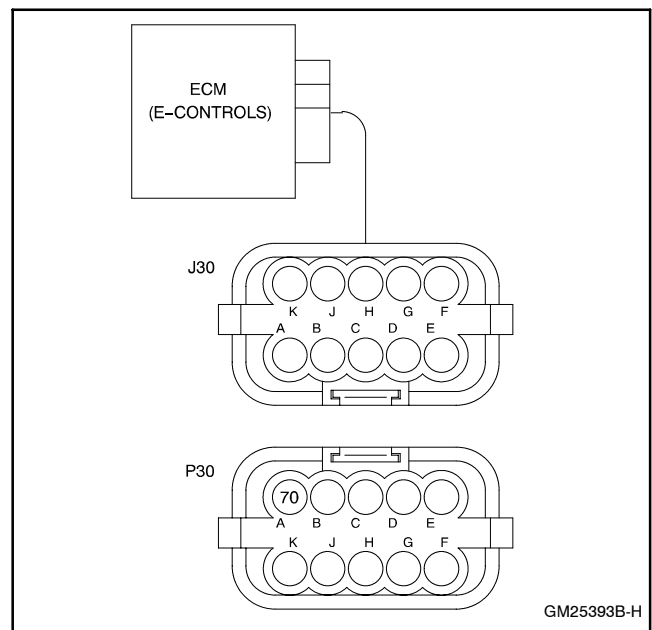
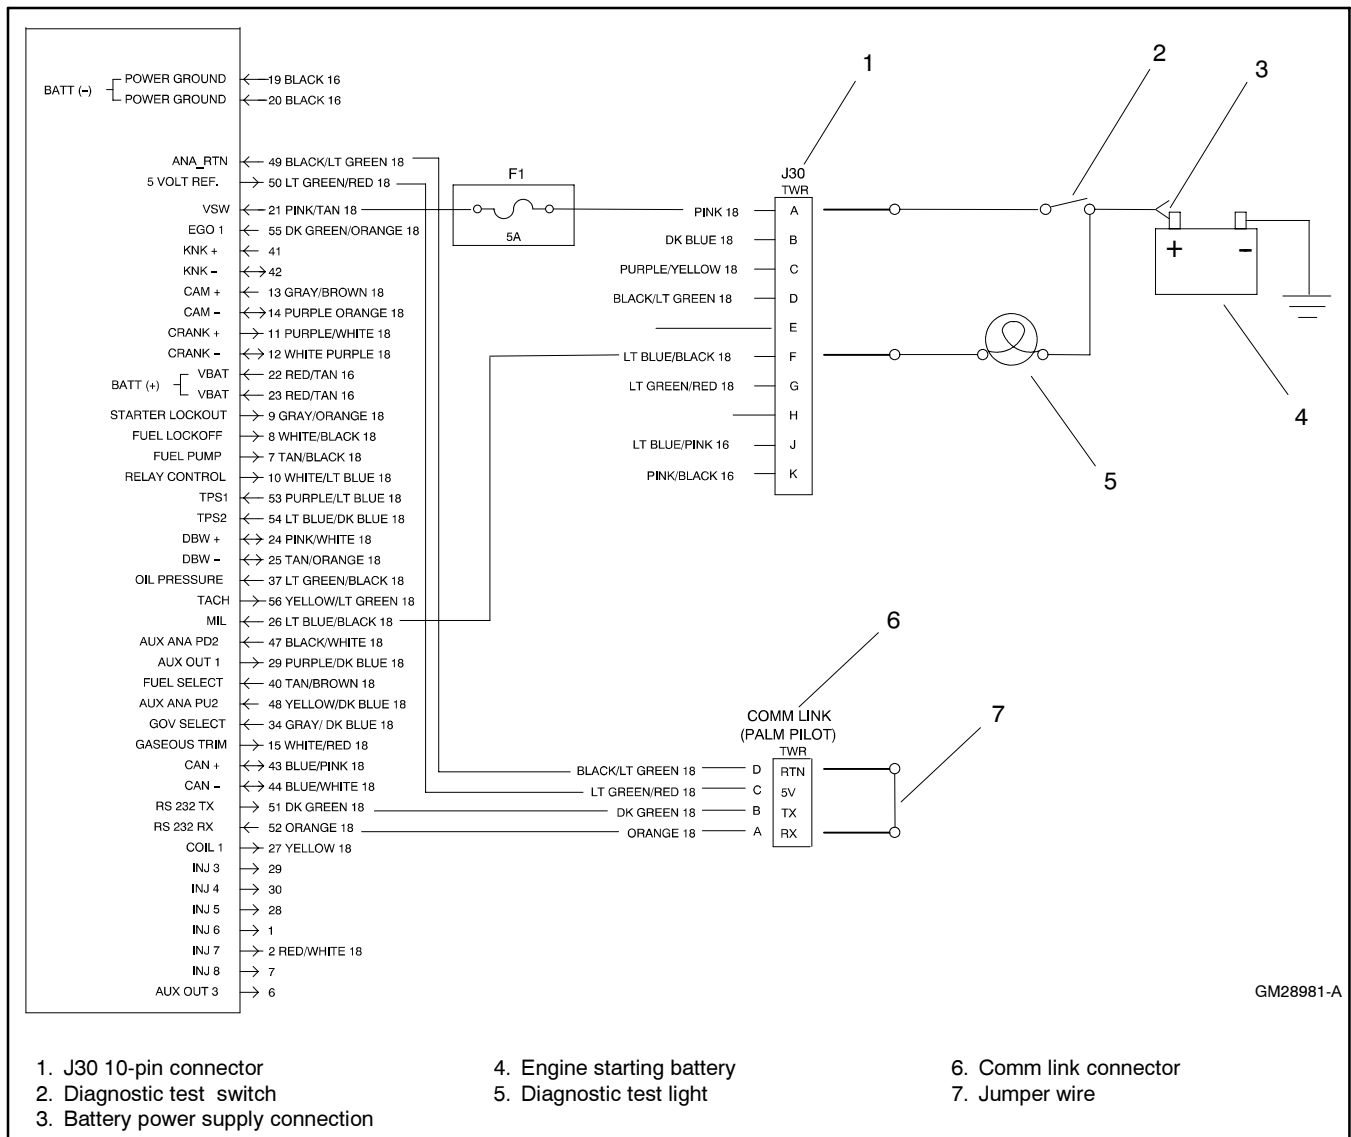

Figure 2 J30 Connector
Figure 3 Diagnostic Test Light Connections
- 1.2 Locate the 10-pin inline connectors J30 and P30. Separate the inline plugs. See Figure 2 and Figure 3.
- 1.3 Place the diagnostic test switch in the OFF (open) position. See Figure 3.
- 1.4 Connect the diagnostic test light to J30 pins A and F as shown in Figure 3.
- 1.6 Connect the jumper wire to the comm link TWR connector pins A and D as shown in Figure 3.